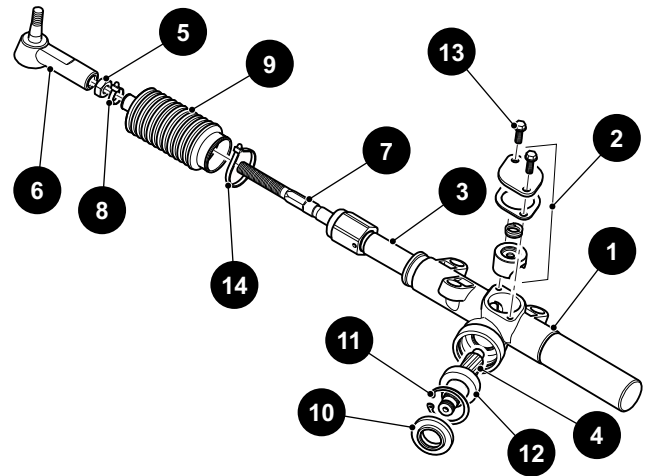
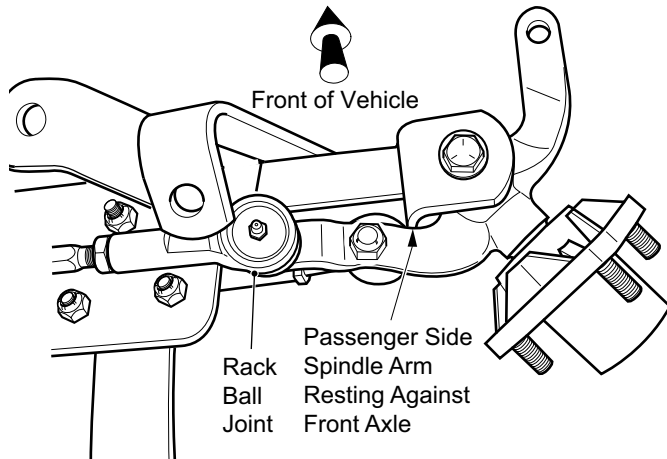

Figure 17 Rack and Pinion Unit Disassembly
Figure 18 Spindle Contact with Front Axle
2. Disassemble the rack and pinion unit (1) by removing the screw (13) and the tensioner (2) to relieve pressure on the rack (3) and pinion (4) (Figure 17).
3. Loosen the jam nut (5) and remove the rack ball joint (6) from the rack extension (7).
4. Cut the wire ties (8, 14) securing the bellows (9). Slide the bellows off of the rack extension. Pull the rack (3) from the unit (1).
5. Remove the pinion seal (10). See Pinion Seal Replacement.
6. Remove the internal retaining ring (11) from the rack and pinion unit. Pull out the pinion (4) and ball bearing (12) as an assembly.
- The rear spindle arm on the passenger side **must rest against** the front axle (Figure 18). If it does not, all adjustment is made at the rack ball joint (6) (Figure 17).
- Loosen the jam nut (5) at the rack ball joint and use a wrench to thread the shaft of the rack extension (7)